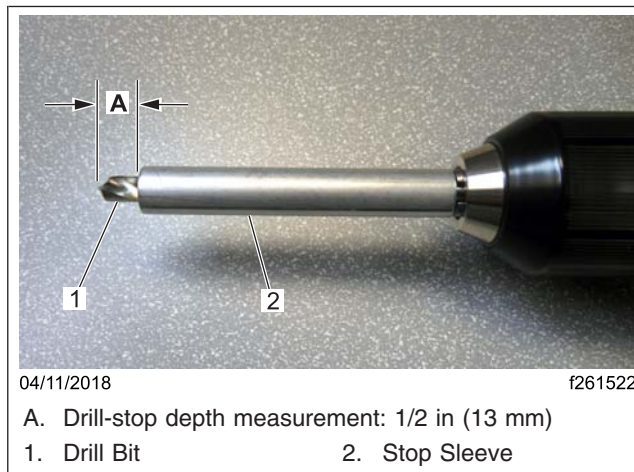

Fig. 4, Setting the Drill-Stop Depth
- 12.1 Set the drill-stop depth so that only 1/2 in (13 mm) of the drill bit protrudes from the stop sleeve. See Fig. 4.